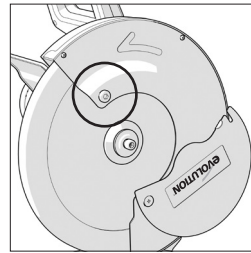

Fig. 2
- Loosen the fastener screw securing the arbor guard and rotate the guard upwards to reveal the machine's arbor. (Fig. 2)